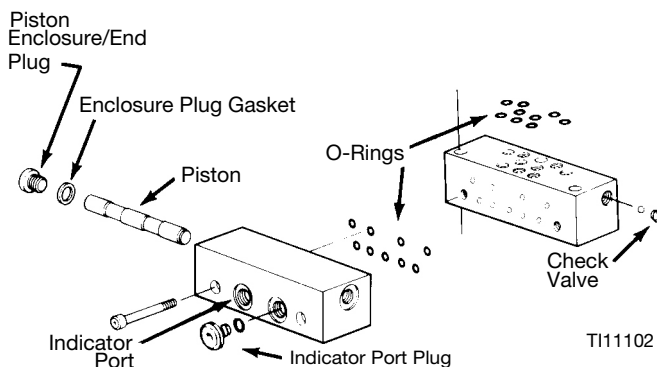

FIG. 3
Valve sections (three (3) or more required per manifold) contain pistons specially fitted to that section. They also have built in outlet check valves and various passageways working with the pistons that meter and valve the flow of lubricant (FIG. 3).